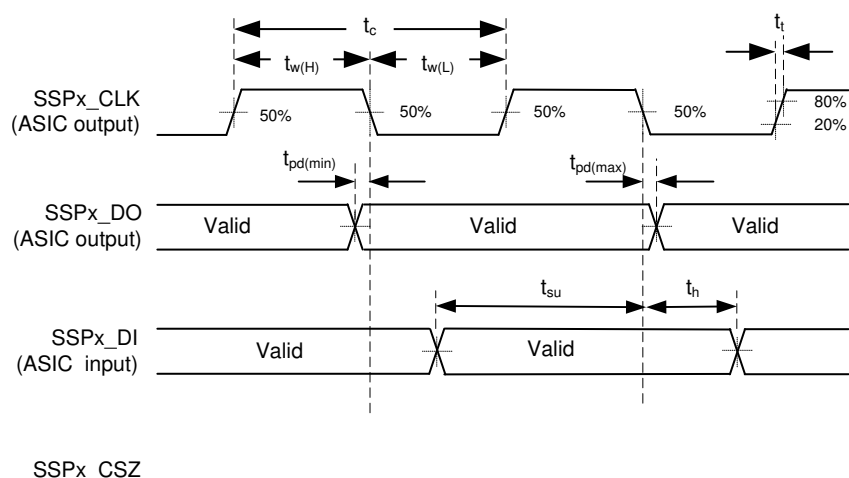
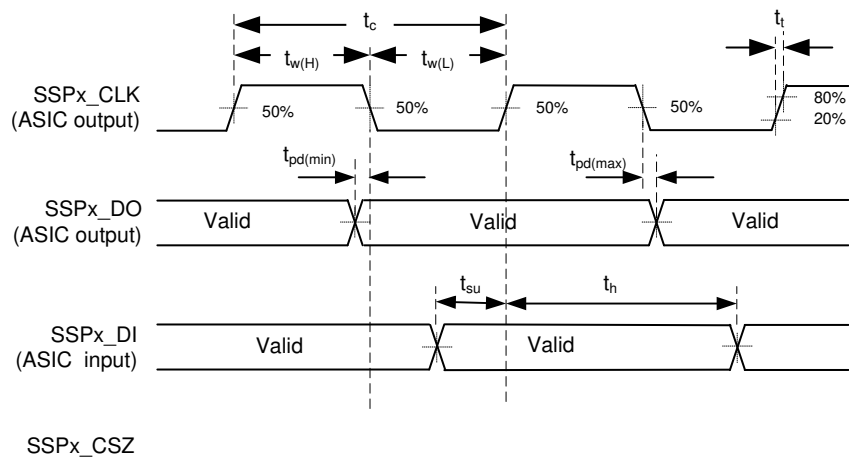

图 5-10. Synchronous Serial Port Interface—Master (Modes 0/3)
图 5-11. Synchronous Serial Port Interface—Slave (Modes 0/3)
- (1) The SSP is configured into four different modes of operation by the controller firmware. These modes are shown in 表 5-2, 图 5-10, and 图 5-11.
(2) SPI Modes 0 and 3
(3) SPI Modes 1 and 2